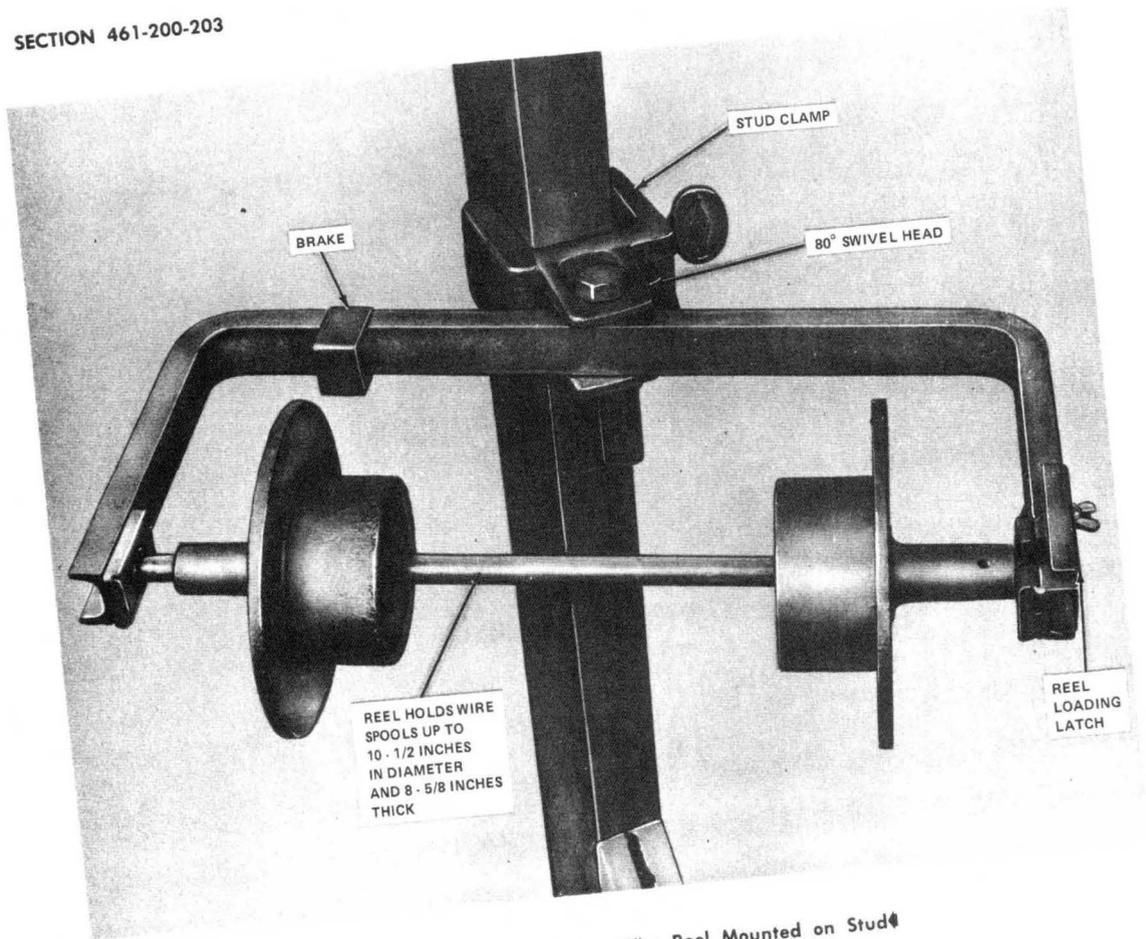

Fig. 4—AT8903 B Station Wire Reel Mounted on Stud
3.02 The G, H, and KS-22084 teflon station wire or 4 pair D inside wiring cable may be dispensed most efficiently with the AT-8903 B station wire reel (Fig. 4). Clamp B station wire reel to post, stud, or beam. Remove cardboard spool of wire from carton, place it within flanges of B station wire reel, and dispense as needed.